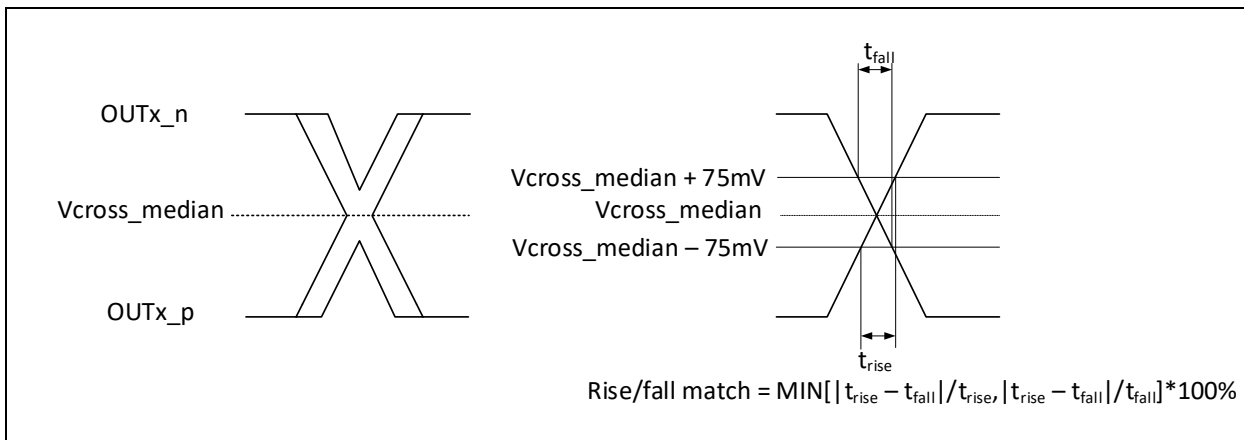

Figure 17. Single-Ended Measurement Points for Rise and Fall Time Matching
(12) Matching applies to rising edge rate for CKx and falling edge rate for CK#x. It is measured using a ±75 mV window centered on the median cross point where CKx rising meets CK#x falling. The median cross point is used to calculate the voltage thresholds the oscilloscope is to use for the edge rate calculations. The Rise Edge Rate of CKx should be compared to the Fall Edge Rate of CK#x the maximum allowed difference should not exceed 20% of the slowest edge rate. See Figure 17.